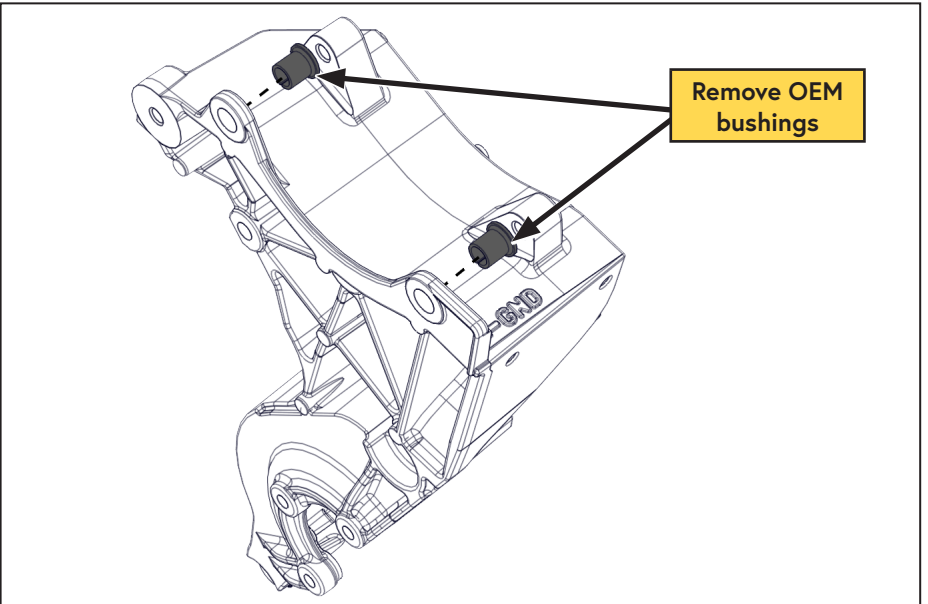

Figure 12 — Bracket bushing removal
- Remove the bushings from the OEM bracket (Figure 12).